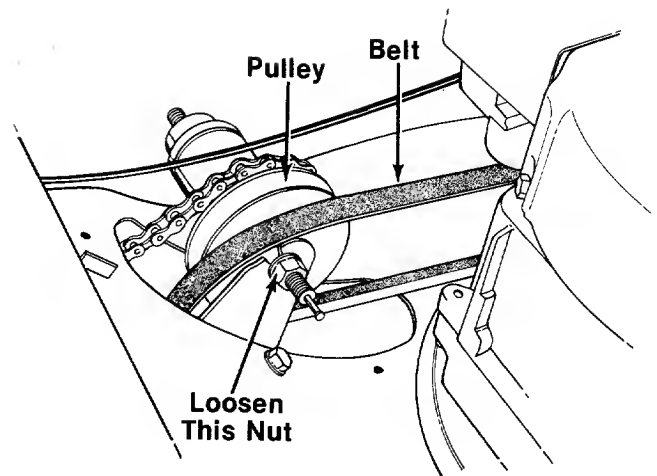

FIGURE 26.
7. Slide the belt off the pulley as shown in figure 26.
8. Loosen the nut on the inside of the three speed hub. See figure 26.